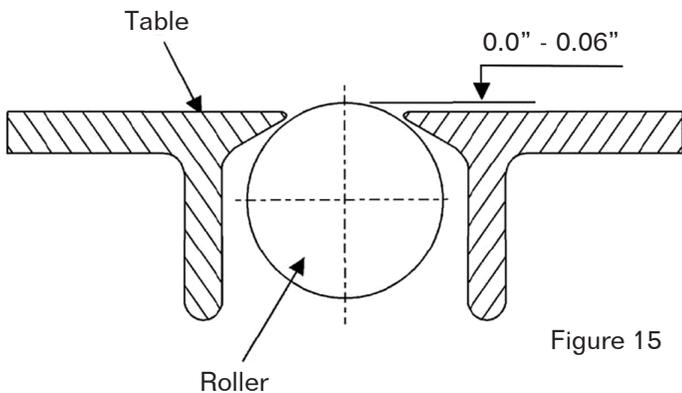

Figure 15
**NOTE:** When raising the roller higher above the table, the range is from zero to 0.06" (Figure 15).